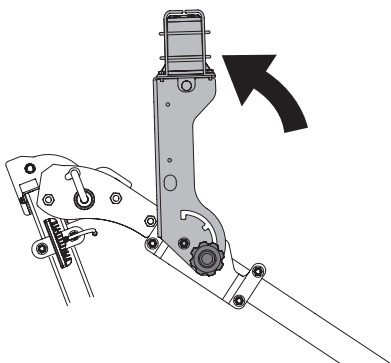
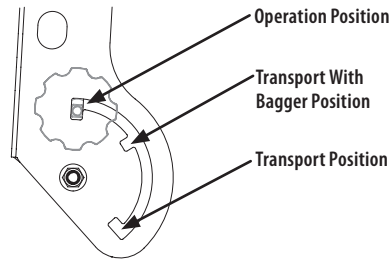

Figure 3-5
Figure 3-6
3. Rotate the assembly to face the beacon light straight upward. See Figure 3-5.
Note: In Figure 3-5 the ROPS is shown in Transport Position. Take note of the settings used for the different beacon light positions. See Figure 3-6.